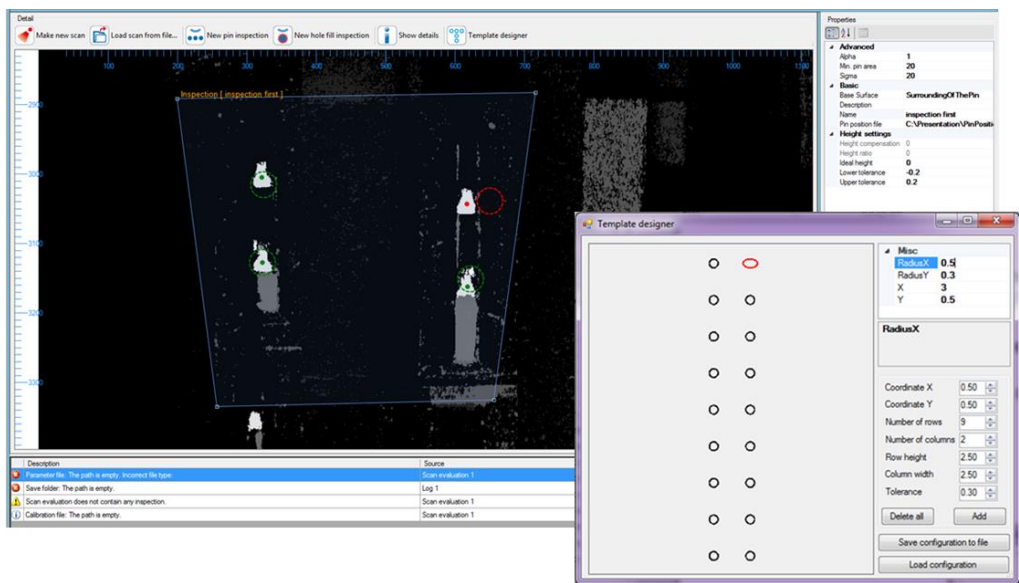

Figure 85 Template designer
- The Pinspector application will immediately load the template and will calculate to fit the template into all pins existing in the selected inspection. The calculation is performed in a manner to minimize the distance between the real position and the relevant ideal position of all pins. In case when an inspected pin is surrounded with the appropriate element, then this element will turn green. Indicating that the pin has passed the inspection, or turns red for failed. The image shown on Figure 85 is an example of the best possible fit with a sample of one pin failed.